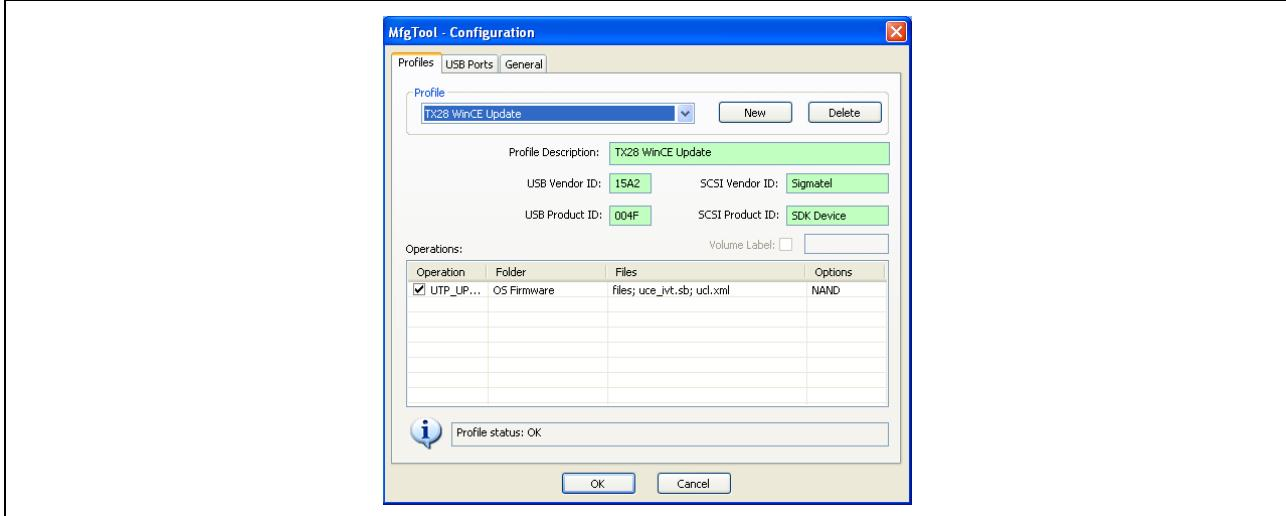

Figure 36 MfgTool Configuration Dialog
- 1 From the main screen of the MfgTool, select the Options→Configuration menu item. The dialog shown in Figure 36 will be displayed